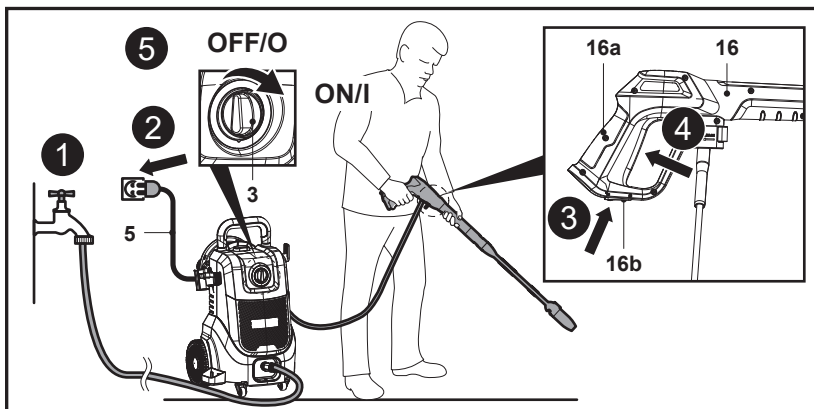

Fig. 19
1. Open the water tap to let the water flow into the pump (Fig. 19, step 1).
2. Connect the power cord (5) to power supply ensuring that the on/off rotary switch (3) is in the off position (Fig. 19, step 2).
3. Pull the trigger lock (16b) at the bottom of spray gun (16) back to unlock the spray gun trigger (16a) (Fig. 19, step 3).
4. Fully press the trigger (16a) until there is a constant flow of water to clear the air from the machine and water supply hose (Fig. 19, step 4). Release the spray gun trigger (16a) afterwards.
5. Switch on the machine by rotating the on/off rotary switch (3) to "I" position (Fig. 19, step, 5).